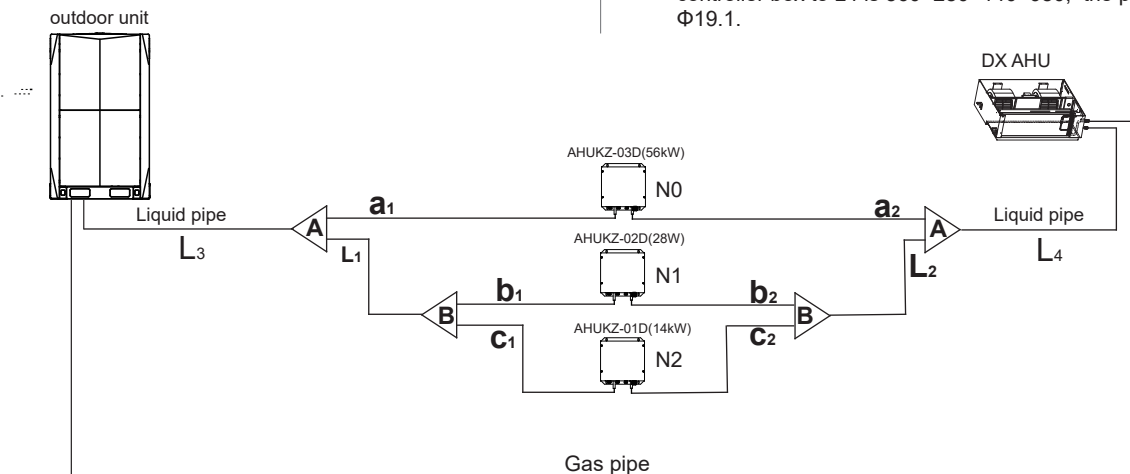

Figure 3-7
Pipe name	Code (refer to Figure 3-7)
e.x. 1: Refer to Figure 3-7, the capacity of downstream controller box to L4 is $560 + 280 + 140 = 980$, the pipe is $\Phi 19.1$.